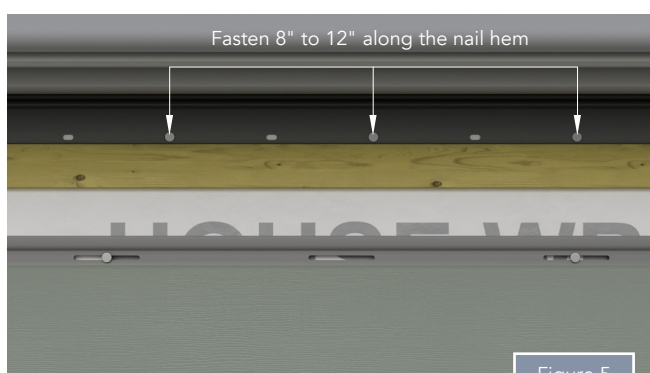

Figure 5
- Fasten the trim receiver to the wall approximately every 8" to 12" along the nail hem making sure the receiver is securely fastened using galvanized, stainless, or corrosion-resistant nails or screws (Figure 5).